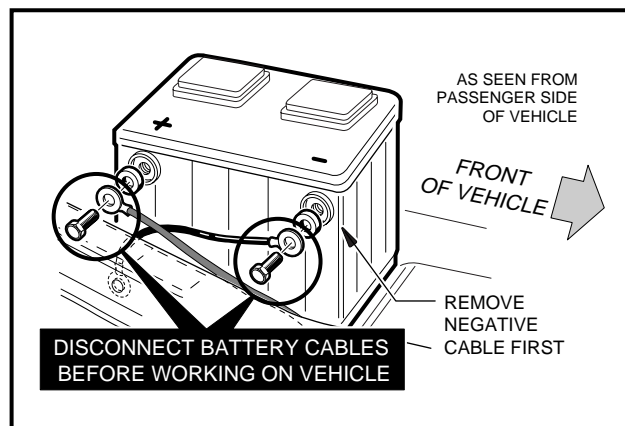

Figure 10-1 Battery Cable Removal
- Disconnect battery cables, negative cable (–) first (Figure 10-1, Page 10-2).